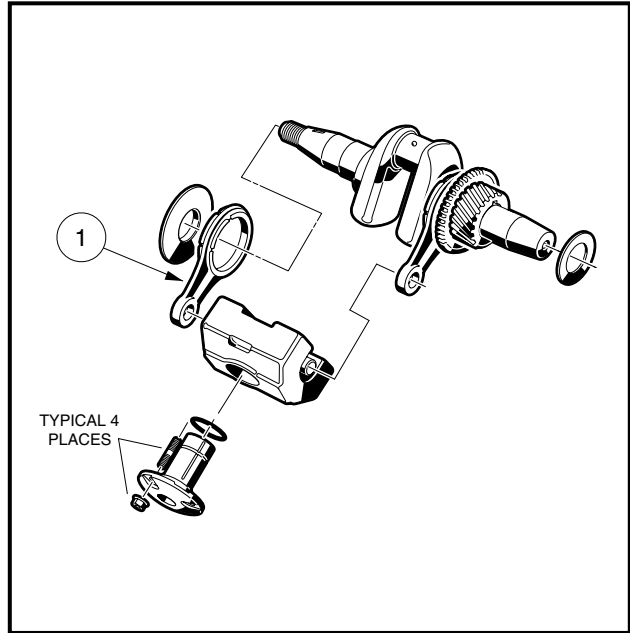

Figure 2-69 Inspect Link Rod
1. Clean and inspect the link rod (1) bearing surfaces. If the bearing surface of the small end is scored or damaged, replace the link rod. If the large end bearing is scored or damaged, the bearing must be replaced (**Figure 2-69, Page 2-32**).
NOTE: Do not remove the link rod on the PTO (power take-off) side unless link rod on the opposite end needs replacement. The crank-gear is very tightly fitted to the crankshaft so that it can transfer engine torque to the camshaft (which also functions as a power take-off shaft) (**Figure 2-69, Page 2-32**). Ignore crankshaft and counterbalance disassembly (**Steps 2 through 6, page 2-31**), if the link rod opposite of the PTO side passes inspection (**Figure 2-69, Page 2-32**).